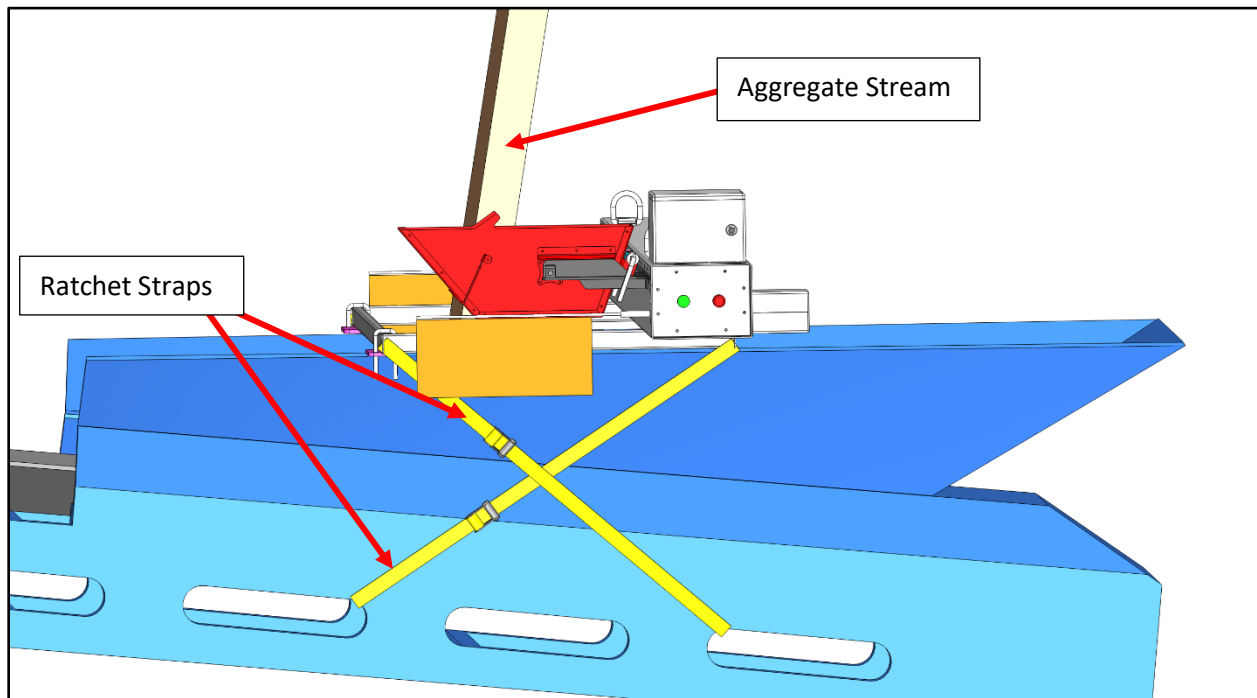

Figure 4 – Shown with crossed ratchet strap arrangement
- For the most flexible solution, 4 ratchet straps should be used (2 per side), and they should always be crossed over each other as shown in Figure 4 to ensure stability. The length of the 4 straps can be adjusted to ensure the A-1000 is centered above the conveyor belt it's placed above, and oriented so that the bucket captures the entire aggregate stream when operated. The straps can be attached to the D-rings welded into the sample taker structure.